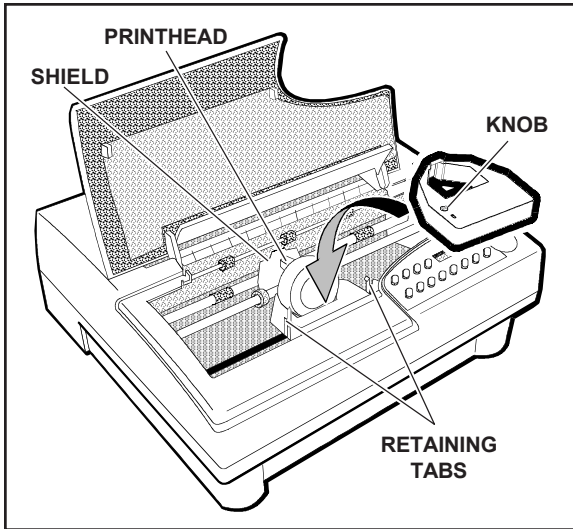

Figure 2-6. Installing a Ribbon Cartridge
4. Insert the exposed portion of the ribbon between the printhead and the shield, as shown in figure 2-6.